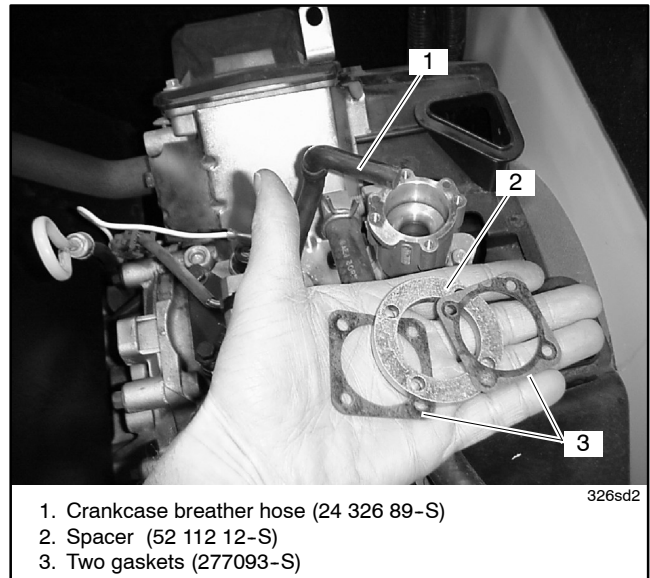

Figure 4 Crankcase Breather Hose, Air Cleaner Spacer, and Gaskets
12. Install the spacer (52 112 12-S) and two gaskets (277093-S) on the carburetor assembly, lining up the holes with the threaded openings in the carburetor. See Figure 4.